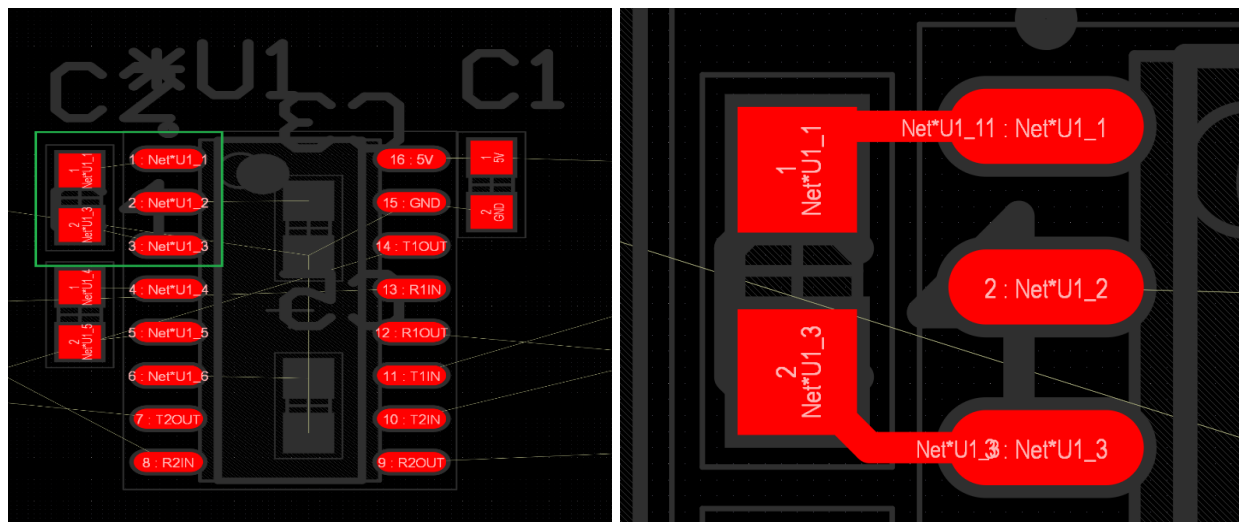

Figure 12: (Left) Highlighted Area for Initial Traces, (Right) Zoomed in View of Placed Traces
21. Next click on the bottom pad of the capacitor and connect it to the third from top pin as shown in Figure 12. (Note: Altium will not allow you to connect it to any other pin since it is not on the same node)